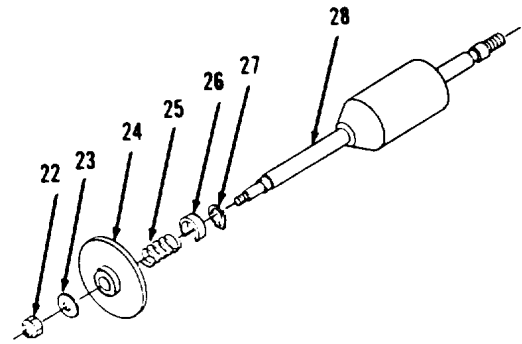

Figure 4-60.
13. Remove nut (22), washer (23), contact assembly (24), spring (25) and retainer (26, Figure 4-60).
14. Using retaining ring pliers, remove ring (27) from core (28).
1. Install ring (27) on core (28, Figure 4-60).
2. Install retainer (26), spring (25), contact assembly (24), washer (23) and nut (22).